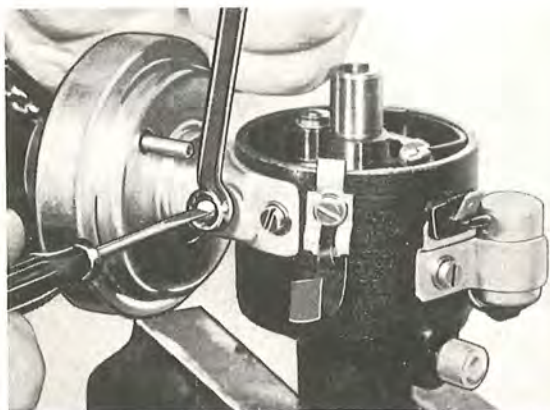

Fig. 3-58. Eccentric for adjusting max. ignition drop
4. Move over the vacuum hose to the metal pipe on the vacuum regulator (the secondary diaphragm) and check that the ignition drop mechanism is functioning satisfactorily. If the max. drop is too great or too small, it can be adjusted by slackening the counternut and by turning the eccentric, see Fig. 3-58.